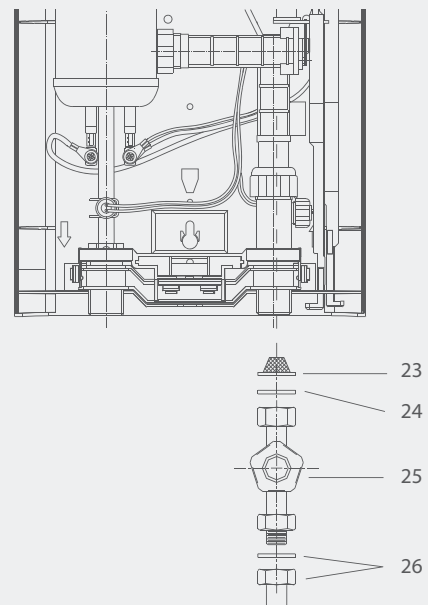

Fig 9
7. Fit the cold water connection. Connect the water valve (25) (Fig 9) with the filter (23) (Fig 9) and the washer (24) (Fig 9) to the cold water inlet of the unit (16). (Fig 6) Tighten the union nut and washer (26) (Fig 9) to the water valve.